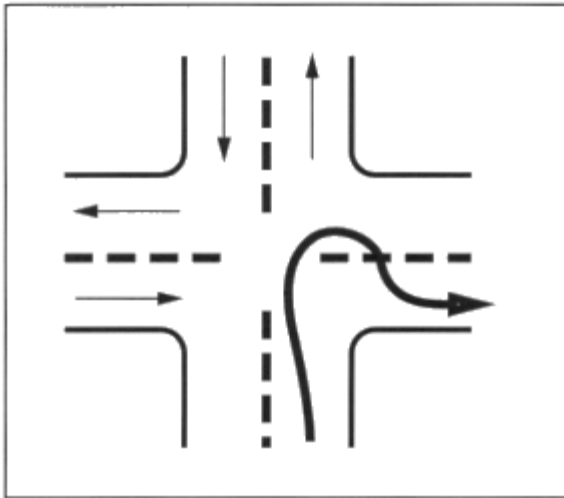

Figure 6-5
Steer the front end wide enough around a corner so the rear end does not run over the curb, pedestrians, other vehicles, etc. However, keep the rear of your vehicle close to the curb. This will stop other drivers from passing you on the right. If you cannot complete the turn without entering another traffic lane, turn wide as you **complete the turn** (Figure 6-5). This is better than swinging wide to the left before starting the turn because it will keep other drivers from passing you on the right. If drivers pass you on the right, you might collide with them when you turn.
5. Why should you turn like it shows in Figure 6-5?